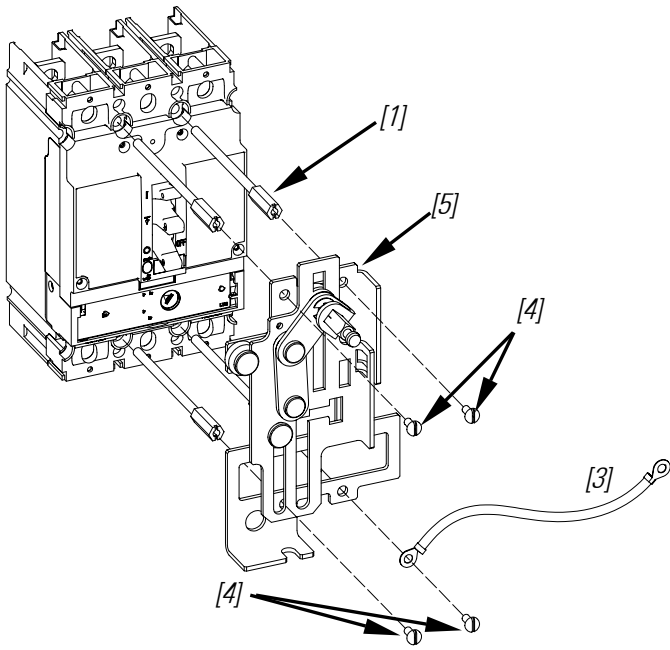

Figure 5. Mounting the FENRM4 assembly onto the breaker.
- a. Place the base-crank assembly [5] on the breaker, as illustrated in Figure 5.